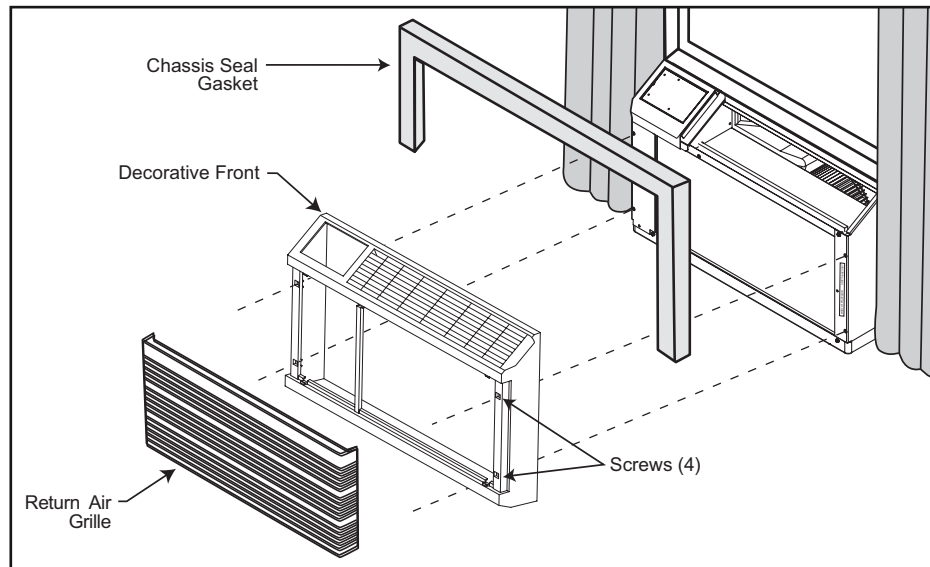

Figure 12
STEP 5. CHASSIS SEAL GASKET INSTALLATION: After installing the shell, slide the chassis into the shell stopping approximately 3" from full insertion. Stuff the chassis seal gasket one inch deep between the chassis and the shell (see Figure 12). **Make sure the gasket is installed beginning from the lower right side corner and extending over the top and down to the lower left side corner.** Then push the chassis all the way into the shell for the remaining distance so that the plastic front meets the front edge of the shell.
STEP 6. Remove the intake grille from the decorative front frame by grasping it at the upper right and left side corners. Pull out until the grille is released from the upper retaining snaps. Tilt it down toward you, lift up and out of the bottom retaining snaps. Install the decorative front frame in place over the sleeve opening and attach it to the chassis with four sheet metal screws as shown in Figure 12. Replace the intake grille by positioning the bottom of the grille into the bottom retaining snaps. Tilt the front up and away from you. Press in lightly on top, and the grille will position itself into upper retaining snaps.